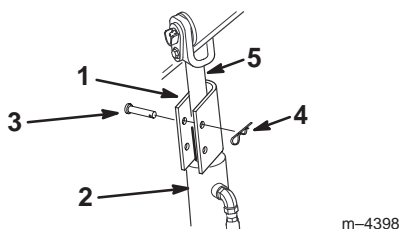

Figure 12
4. Position a loader arm cylinder lock over each lift cylinder rod (Fig. 12).
5. Secure each loader arm cylinder lock with a clevis pin and cotter pin (Fig. 12).